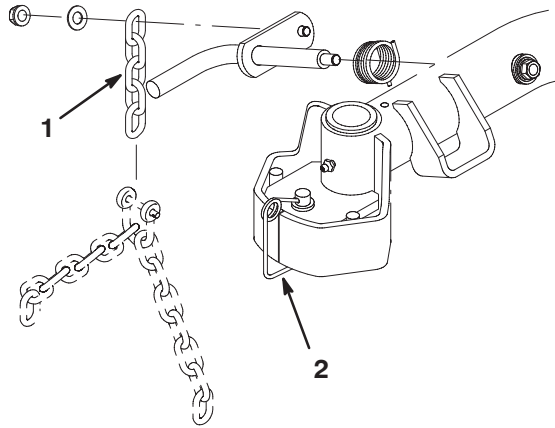

Figure 17
To prevent damage to the brush covers, make sure the lynch pin (Fig. 17) is installed in the lift arm steering plates.
1. Remove chain and install new 5 link chain as shown in figure 17.
Note: Hex spacer and bolt are not required if the lynch pin is installed in the lift arm steering plate (Fig. 17).